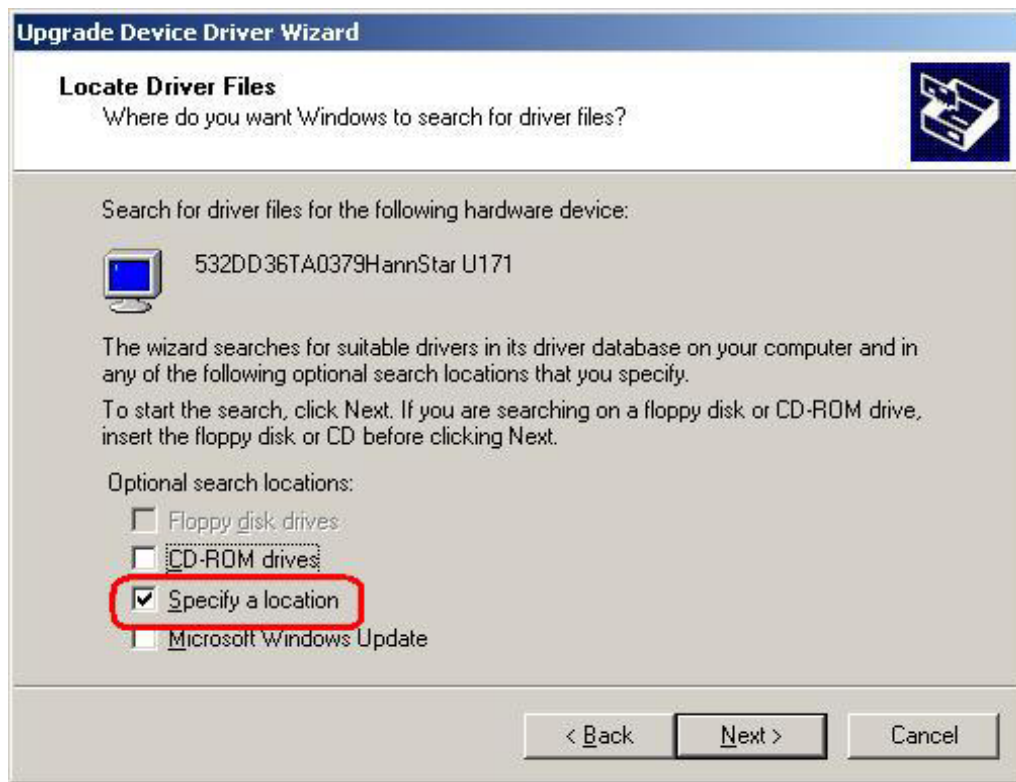

Figure 6-11: Locate Driver Files
- Step 9:** Select **Specify a Location** in the **Locate Driver Files** window (Figure 6-11).